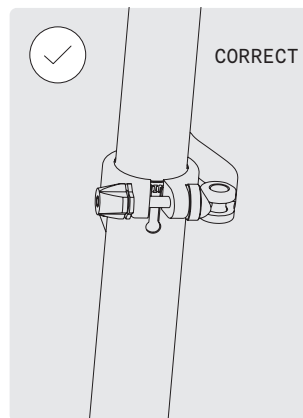

FIG. 33
- Make sure that the seatpost is not pulled out beyond the MIN/MAX marking out of the saddle tube (Fig. 33, 34).